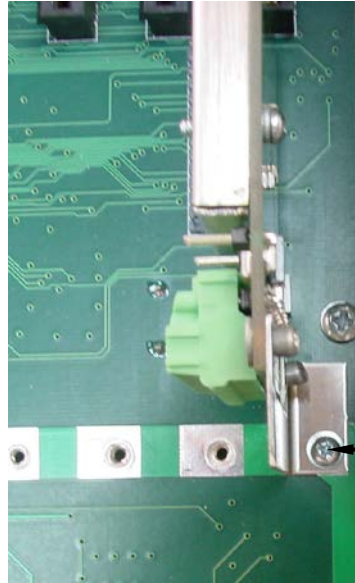

Figure No. 24
1. Reinstall the 825-SIB into the enclosure and secure it to the main PC board with the screw removed earlier. See Figure No. 24.